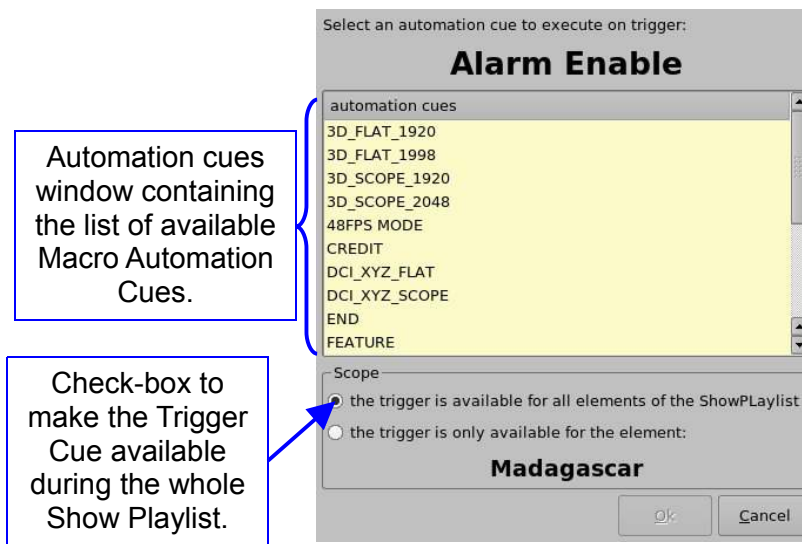

Figure 57: Trigger Cue Addition – Whole Show Playlist
- The following window will appear (Figure 57):
- The same window as in Figure 57 will be displayed.